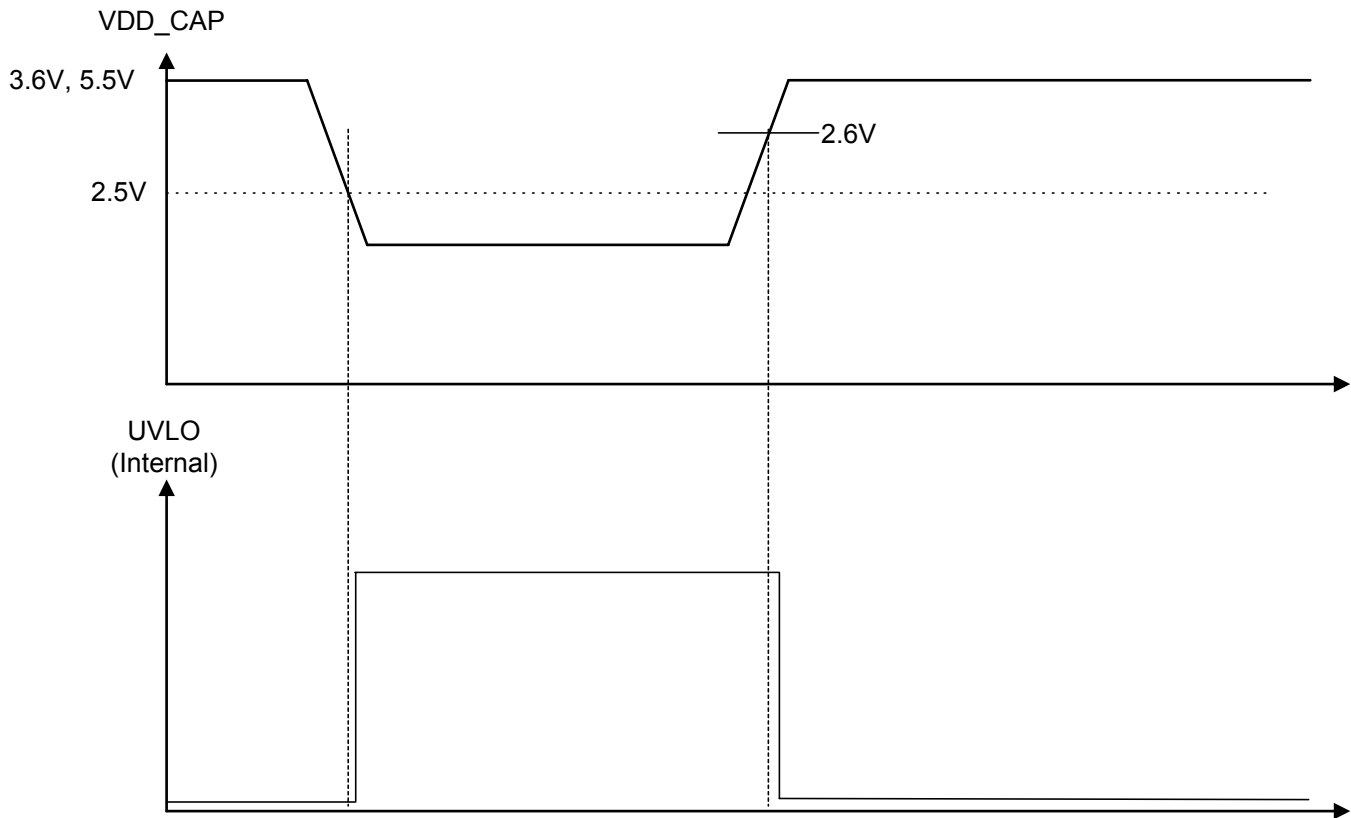

Figure 10 - Timing Sequence recovering from a VDD_CAP Power 'Brown-Out'
2.5V (Figure 10), an internal undervoltage lockout (UVLO) circuit will reset all internal logic. Once power has recovered above 2.6V the SMM766 will restart as if a Command-Triggered power-off had been issued.